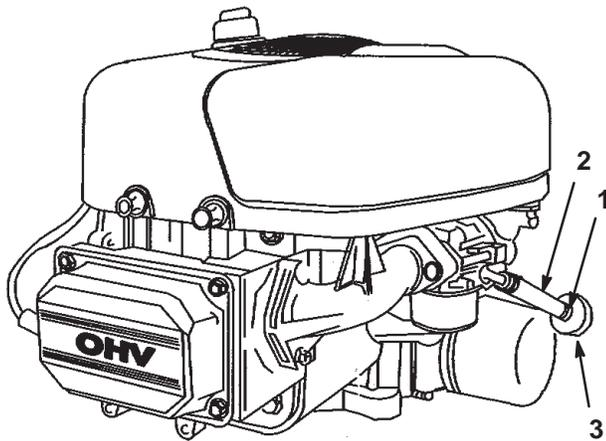

Figure 26
- Squeeze the ends of the hose clamp together and slide it up the fuel line toward the fuel tank (Fig. 26).
- Pull the fuel line off the fuel filter (Fig. 26) and allow gasoline to drain into a fuel container or a drain pan.
Replace the fuel filter after every 100 operating hours or yearly, whichever occurs first. The best time to replace the fuel filter (Fig. 26) is when the fuel tank is empty. Never install a dirty fuel filter after it has been removed from the fuel line.
- Squeeze the ends of the hose clamps together and slide them away from the old fuel filter (Fig. 26).